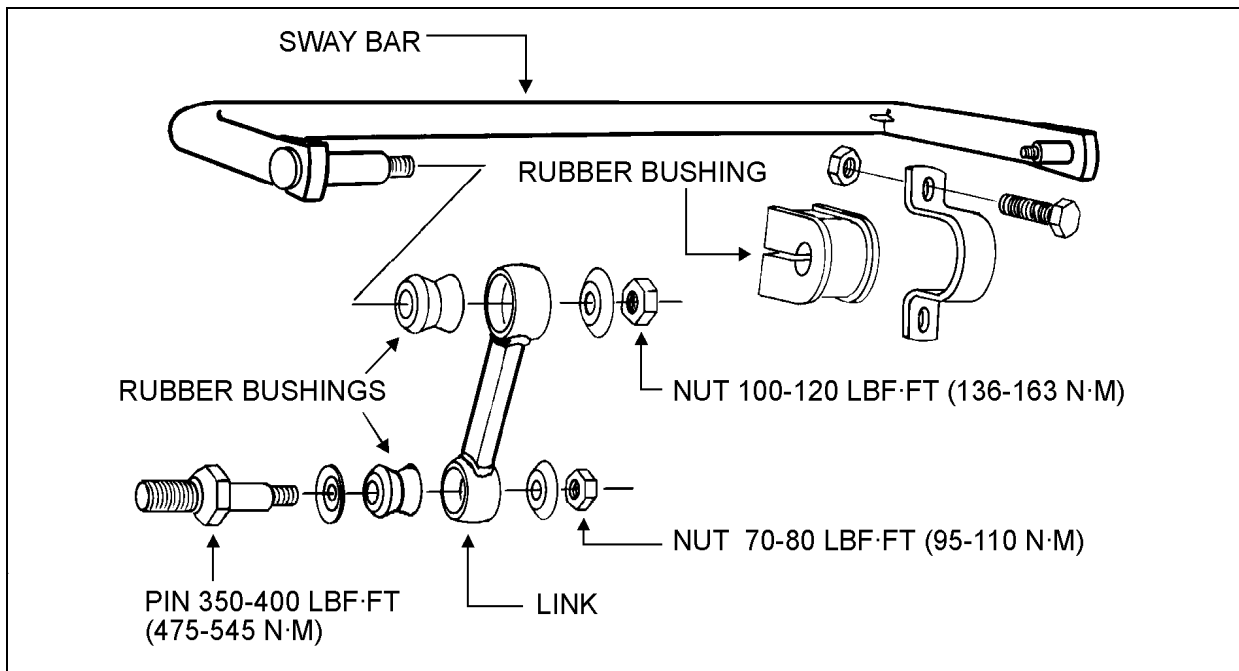

FIGURE 10: FRONT & DRIVE AXLE SWAY BAR
- Place a flat steel disc, slightly smaller than the outside diameter of the bushing (Fig. 10).
A sway bar is provided on the front and drive axles to increase vehicle stability. It controls lateral motion (swaying movement) of vehicle (Fig. 10).
2. Tighten the eight bushing collar nuts to 70 - 80 ft·lbf (95 - 110 N·m) (Fig. 10).
3. Tighten sway bar link upper nuts to 100 - 120 ft·lbf (136 - 163 N·m) and lower nuts to 70 - 80 ft·lbf (95 - 110 N·m) (Fig. 10).